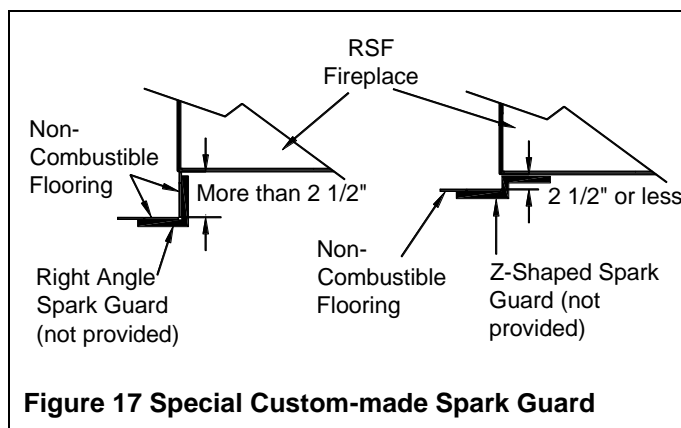

Figure 17 Special Custom-made Spark Guard
If you are preparing a raised installation, you will need a custom-made spark guard, either a "Z" shaped spark guard or a right-angle spark guard (see Figure 17). The Z-shaped spark guard must be used if the height between the bottom of the fireplace and the top of the non-combustible flooring of the hearth extension is less than or equal to 2½". The height of the Z-shaped spark guard must equal the distance between the floor and the base of the unit and go under the hearth extension and the fireplace by at least 2½". If the unit is installed higher than 2½" from the top of the flooring, a right-angle spark guard is necessary. The sides of the right-angle spark guard should be at least 2½" x 2½" and must be covered with non-combustible material. Any custom-made spark guard must have the minimum width specified in Table 1 (I) and be installed centered on the door opening.